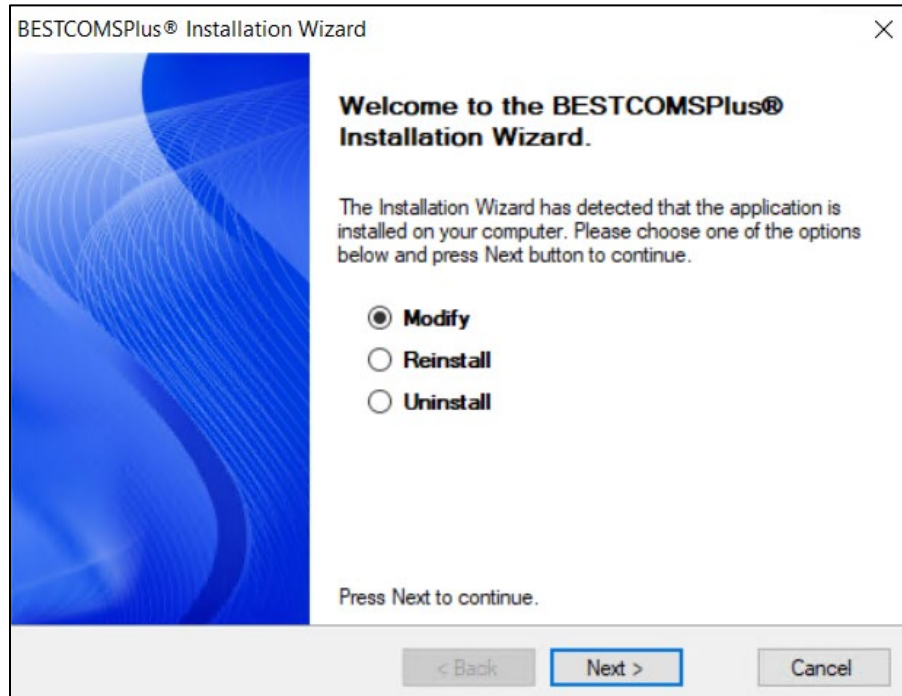
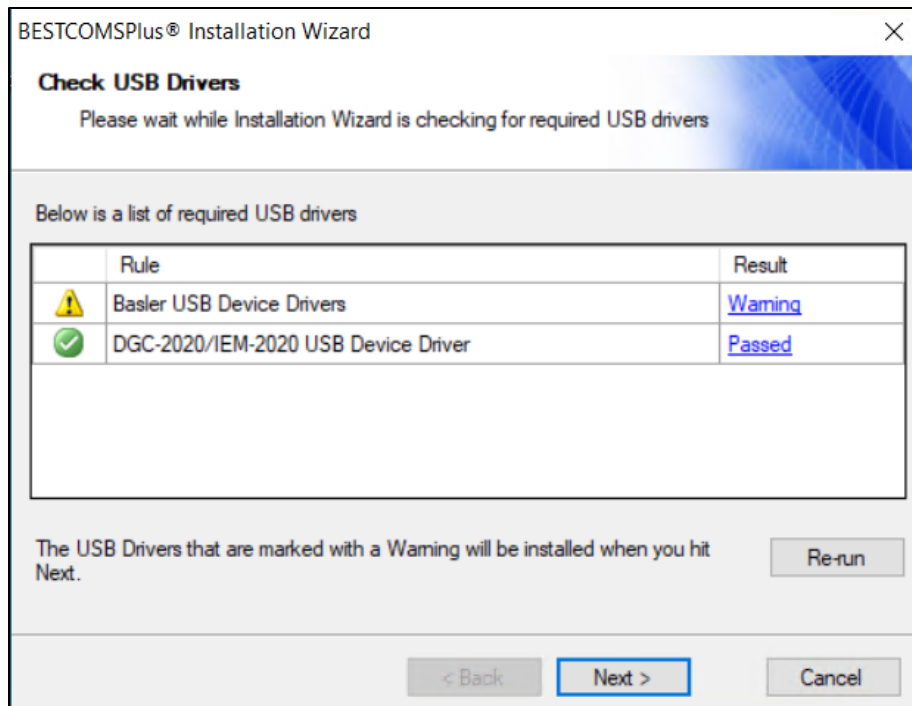

Figure 64-1. BESTCOMSP*lus* Installation Wizard
Figure 64-2. Check USB Drivers Screen
Step 1. Close all programs and restart the computer. Run the BESTCOMSP*lus* installer and select Modify to complete the installation. See Figure 64-1 and Figure 64-2.